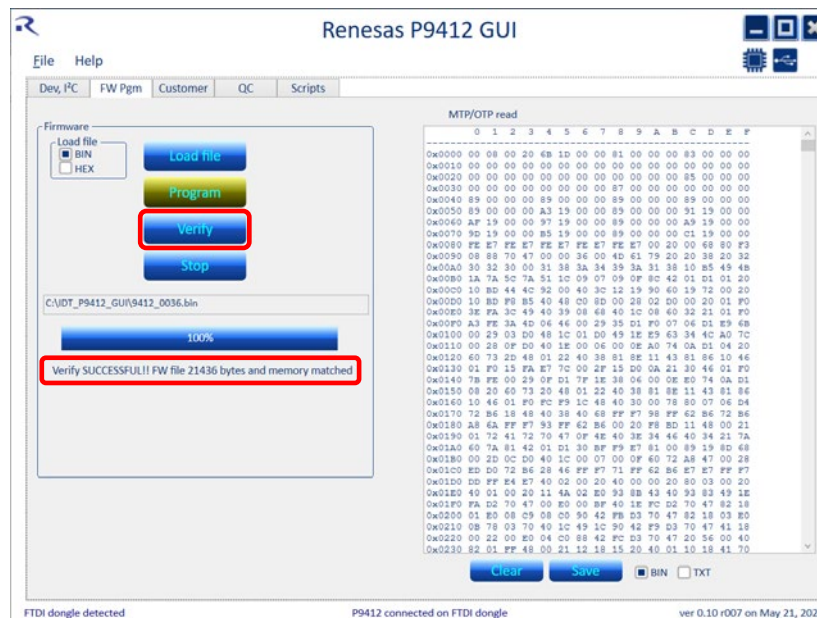

Figure 10. Firmware Program Verification Success
4. If the firmware was programmed successfully, power cycle the external P/S (turn P/S off then on). Then press the “Verify” button. A total match should be indicated for successful programming (see Figure 10). If there are any errors, attempt to program again.